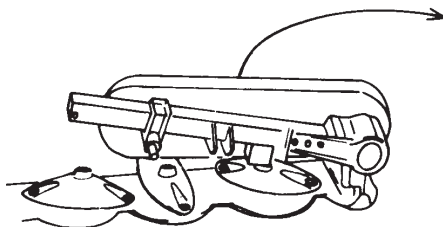

Figure 1
1. Unpack the main frame and fold the frame away from the cutter bar. (See **Figure 1.**)